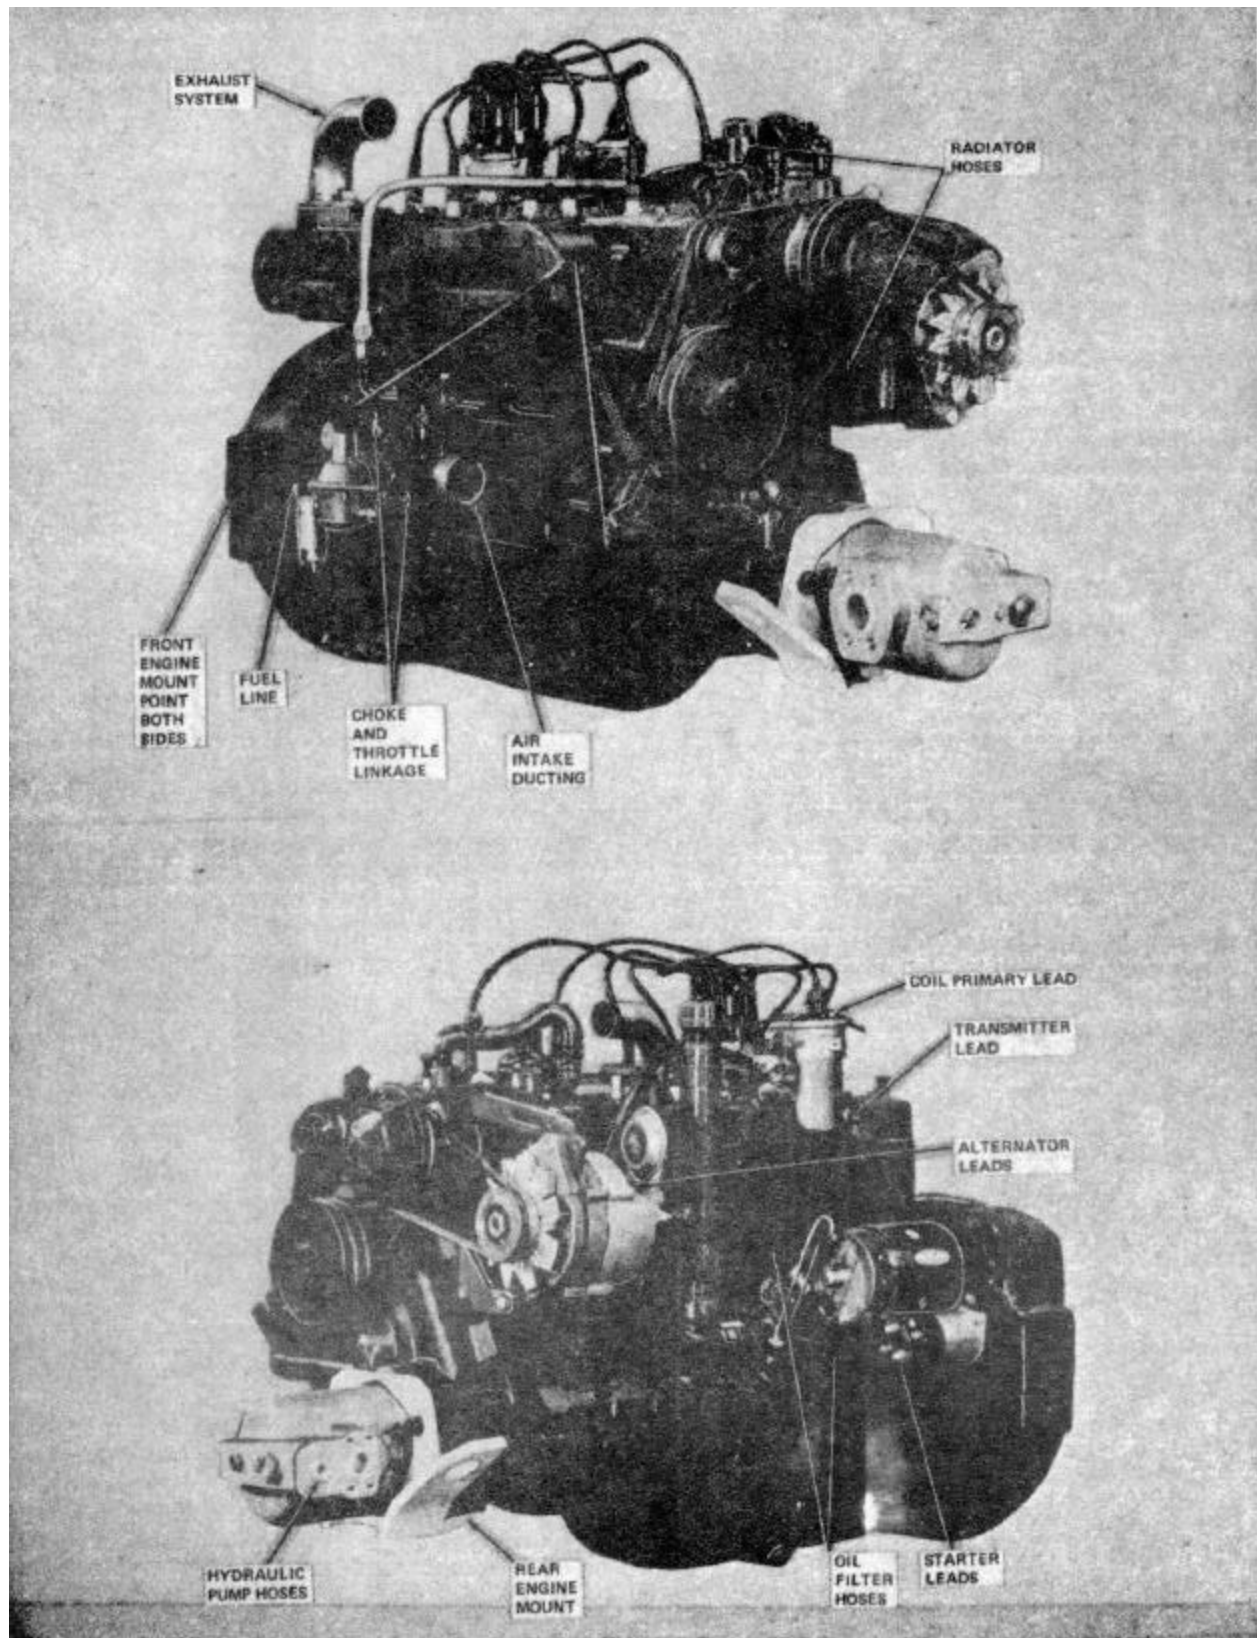

Figure 4-17. Engine Assembly Removal Disconnect Points
2. Make all disconnections indicated on figure 4-17.